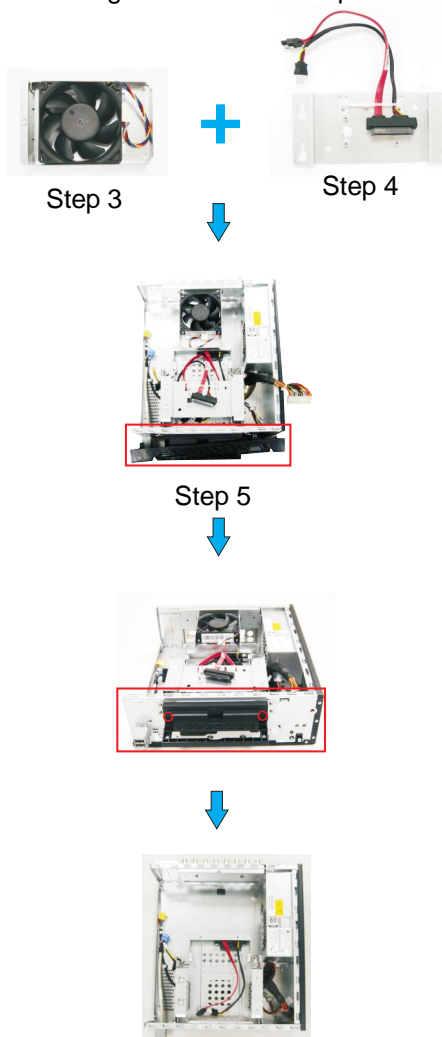

Figure 4. Fan, SSD bracket, HDD bracket removal
Step 3. Remove the fan module. Remove one flat screws securing the fan to the BNC board and two screws securing the fan to the cold-swap bay. See Figure 4.
Then, remove two screws securing the HDD bracket to the cold-swap bay. See Figure 4.